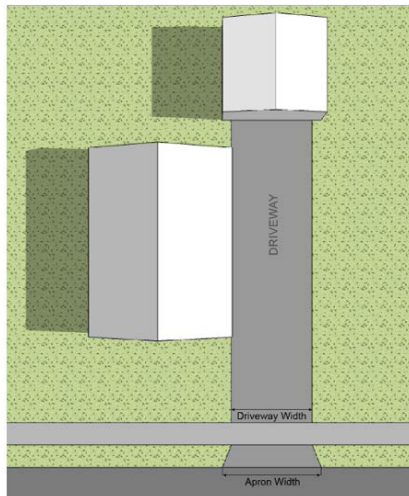

Fig. 6.A: Single & Two-Family Parking Space—Garage
- (1) Parking spaces a minimum of 8 feet wide by 15 feet deep must be provided either within a garage, in a driveway, or uncovered parking space[s] on the same lot of the use it is serving and shall meet the requirements of this section. See Figure 6.A: Single-Family and Two-Family Parking Space-Garage or 6.B: Single-Family and Two-Family Parking Space-Uncovered.